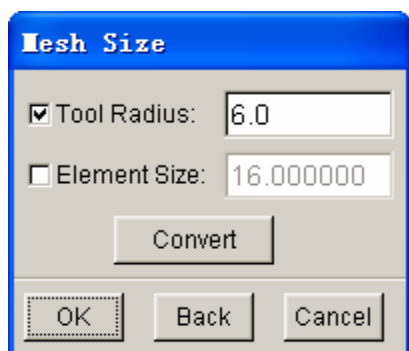

Figure 5.8 Mesh size dialog box
- After selection, click **OK** button to open concerned tool radii dialog box. See Figure 5.8.